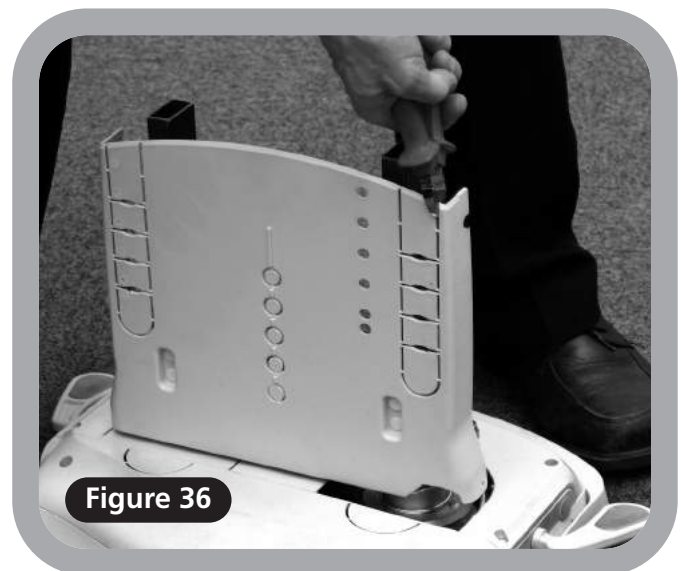

Figure 36
- 1 Depending upon the hand of the stairlift being fitted, remove the appropriate knock-outs from the chassis top rear cover (**Figure 36 – Left hand shown**). Refer to the table below for the number of knock-outs to be removed for the client height.